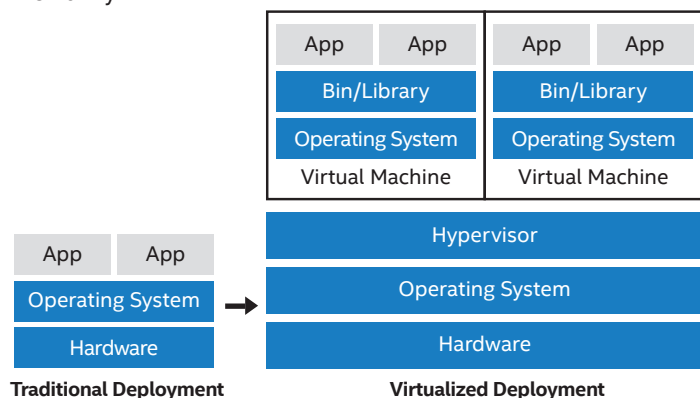

Figure 1: Comparison of hardware, software, and applications architecture between traditional deployment (left) and virtualized deployment (right)
Figure 1 (left) shows the traditional deployment architecture for factory hardware, software, and applications, which is considered a hardware-based architecture. In other words, applications for each function or process need dedicated hardware and operating software (OS) to host and run them. This type of architecture often results in high operational cost, low resource efficiency (i.e., high resource wastage), and low flexibility.
In this regard, it is where virtualization comes in handy. Virtualization is used to break the strong connection between application, OS, and hardware. With virtualization technology, you can run multiple OSs (same or different types of OSs) and applications simultaneously, but separately, on one single physical host hardware, as shown in Figure 1 (right).